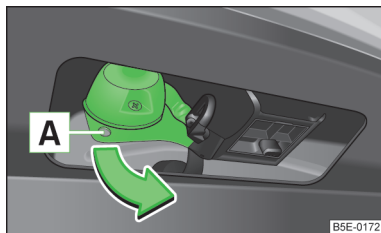

Fig. 151
- Before hitching the trailer to the vehicle, hold on to the 13-pin power socket in the area **A** » Fig. 151 and swivel it out in the direction of the arrow.